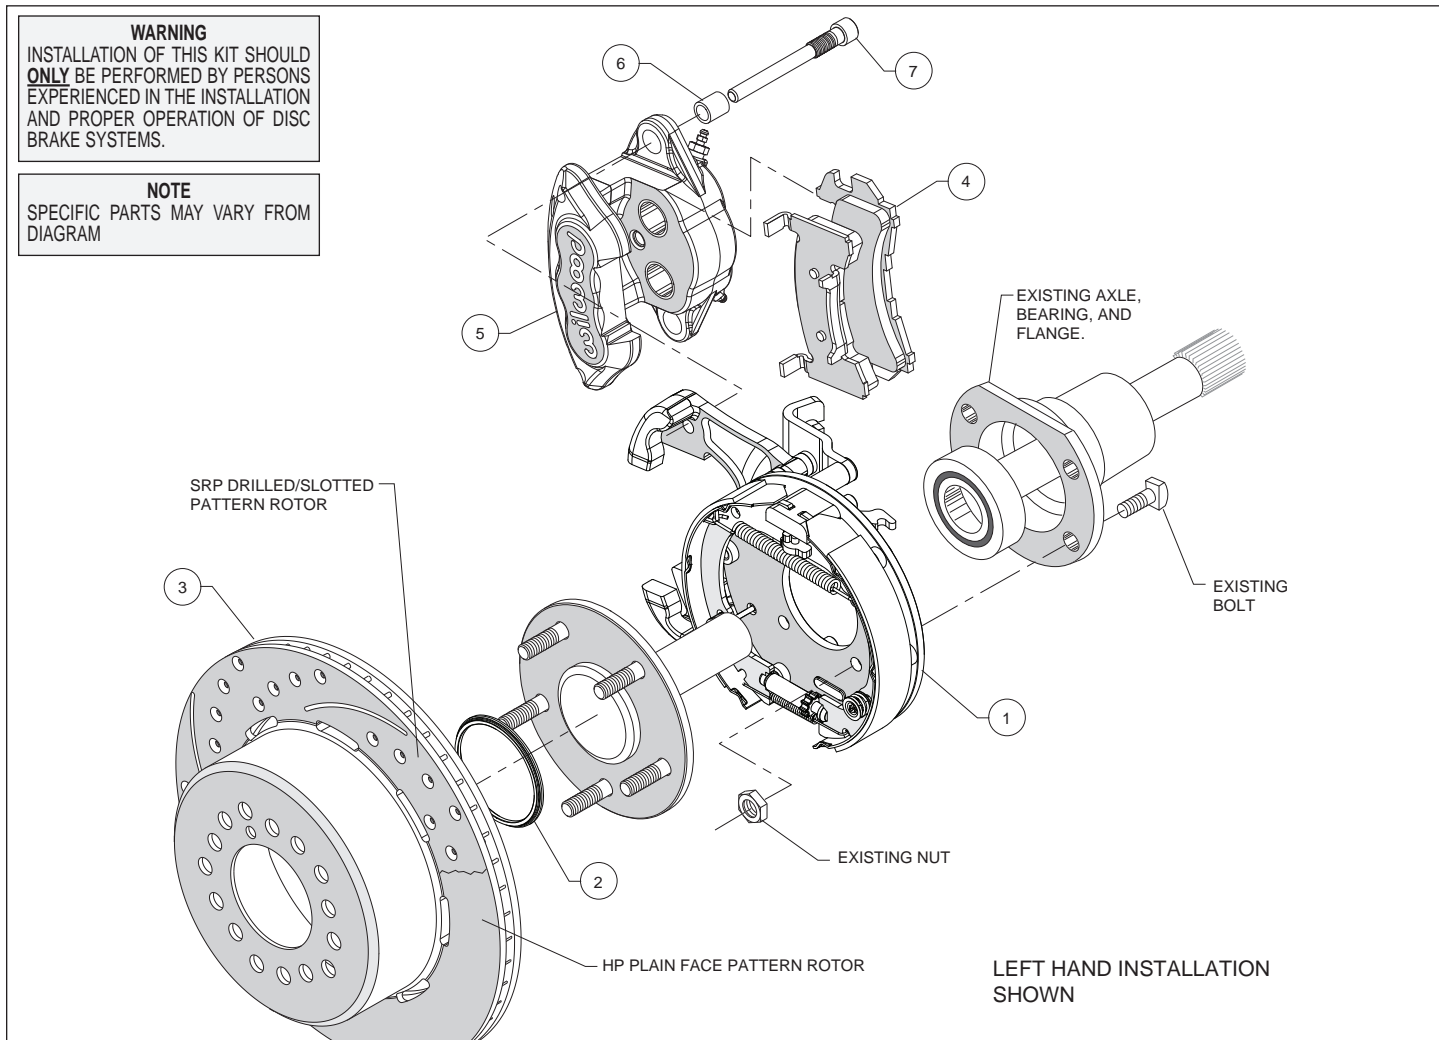

Figure 1. Typical Installation Configuration
Assembly Instructions (numbers in parenthesis refer to the parts list, and Figure 1 on the preceding pages): **CAUTION:** All mounting bolts must fully engage threaded holes.
- Orient the bracket assembly (1) as shown in Figure 1, and mount to the axle housing flange using the Original Equipment Manufacturer (OEM) bolts and nuts, Figure 1. Ensure that the bracket assembly backing plate fits flush against the axle housing flange. Apply red *Loctite*® 271 to the OEM bolt threads and torque to OEM specifications.
- Slide the rotor registration adapter (2) onto the axle register on the axle flange with the smaller O.D. facing toward the rotor/hat (3), Photo 1. Align the correct hole pattern in the rotor/hat (3) with the stud pattern on the axle flange and slide into place, Figure 1 and Photo 2. **NOTE:** The rotor/hat must fit flush against the axle flange or excessive rotor run out may result. Install three lug nuts (finger tight) to keep the rotor/hat assembly in place while continuing with the installation. **NOTE:** Some OEM and after market axles come with stud sizes larger than 0.50" diameter. Verify stud size and have a qualified machine shop drill the bolt circle of the hat/rotor to the correct stud size, if necessary.
- Install the disc brake pads (4) into the caliper (5) with the friction material facing the rotor, as shown in Figure 1 and Photo 3.
- Install sleeves (6) onto slide pin bolts (7). Apply white lithium grease (available from your local auto parts store) to the slide pins/sleeves, as shown in Photo 4. **Do not apply to threads.** Mount the caliper (5) onto the mounting bracket (1) using slide pin bolts, as shown in Figure 1. Torque to 35 ft-lbs.